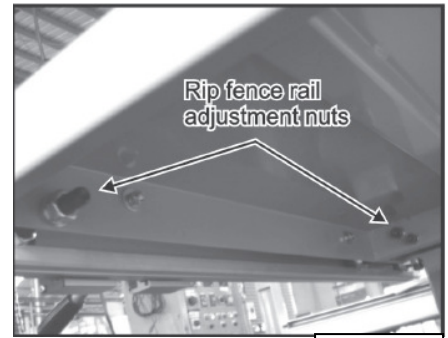

Fig. 13
9. Adjust the height of the rip fence rail, then tighten all nuts against the table showed. (Fig. 13)